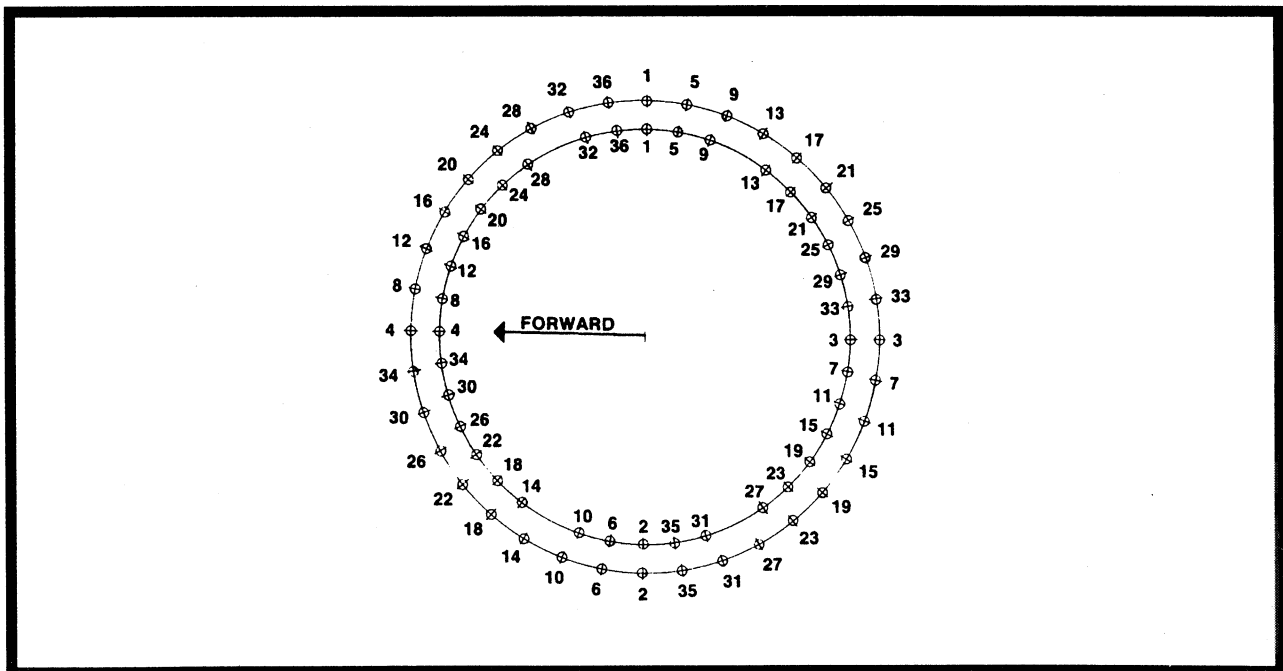

Figure 2-21. Swing Bearing Torquing Sequence.
- (p). Following the Torque Sequence diagram shown in Figure 2-21, tighten the bolts an torque bolts to 80 ft. lbs. (109 NM) wet.
- (u). Following the Torque Sequence diagram shown in Figure 2-21, tighten the bolts an torque bolts to 170 ft. lbs. (231NM) wet.
- (1). Outer Race - 80 ft. lbs. (109 NM) wet, 110 ft. lbs. (149 NM) dry.
- (2). Inner Race - 170 ft. lbs. (231 NM) wet, 220 ft. lbs. (298 NM) dry.
- (3). Swing Bearing Torquing Sequence, see Figure 2-21.